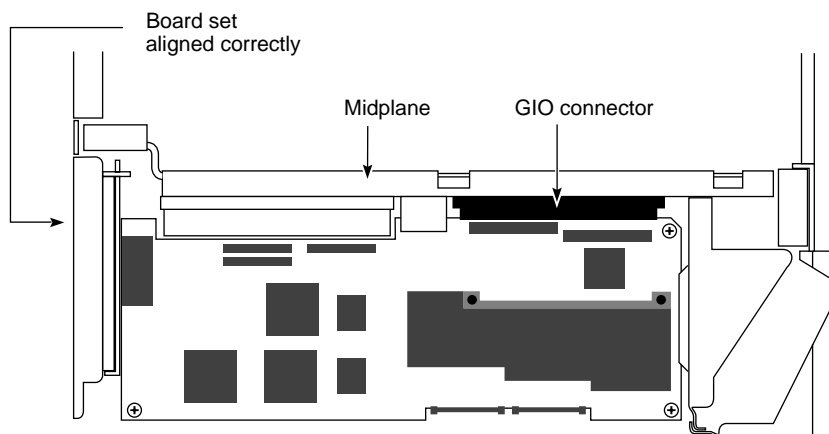

Figure 5-47 Board Set that Is Correctly Aligned, Viewed From Above
3. Visually check to be sure the boards are completely seated in their connectors. The board set should not look tilted when viewed from above. See Figure 5-47.